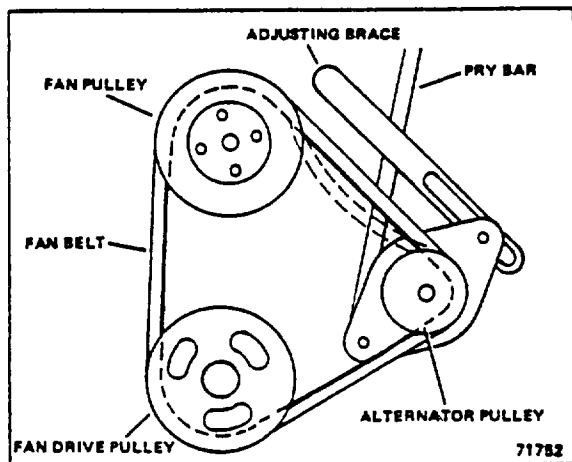

Figure 5-2. Fan Belt Adjustment
3. Force the alternator away from the engine with a long-handled screwdriver or pry bar, until the fan belt has approximately 1/2" to 3/4" deflection at a point half way between the fan pulley and the alternator pulley with about 10 lbs. applied force (Figure 5-2).
2. Force the alternator away from the engine with a long-handled screwdriver or pry bar, until the fan belt has approximately 1/2" to 3/4" deflection at a point half way between the fan pulley and the alternator pulley with about 10 lbs. applied force (Figure 5-2).